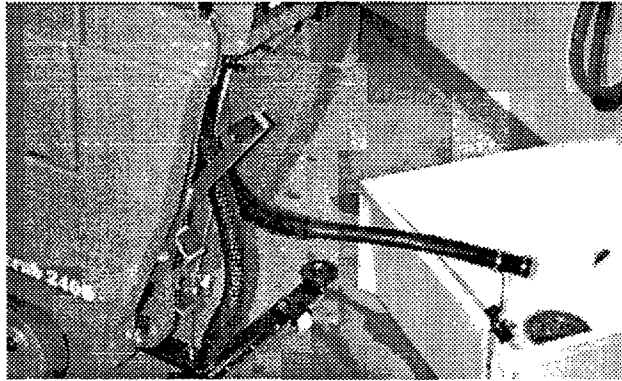

FIG. 18
1. Remove drain hose from holder, position hose over floor drain and twist off drain hose plug. To completely drain recovery tank, hinge open tank side-ways and flip up tank support stand to rest tank on. (Figure 18)